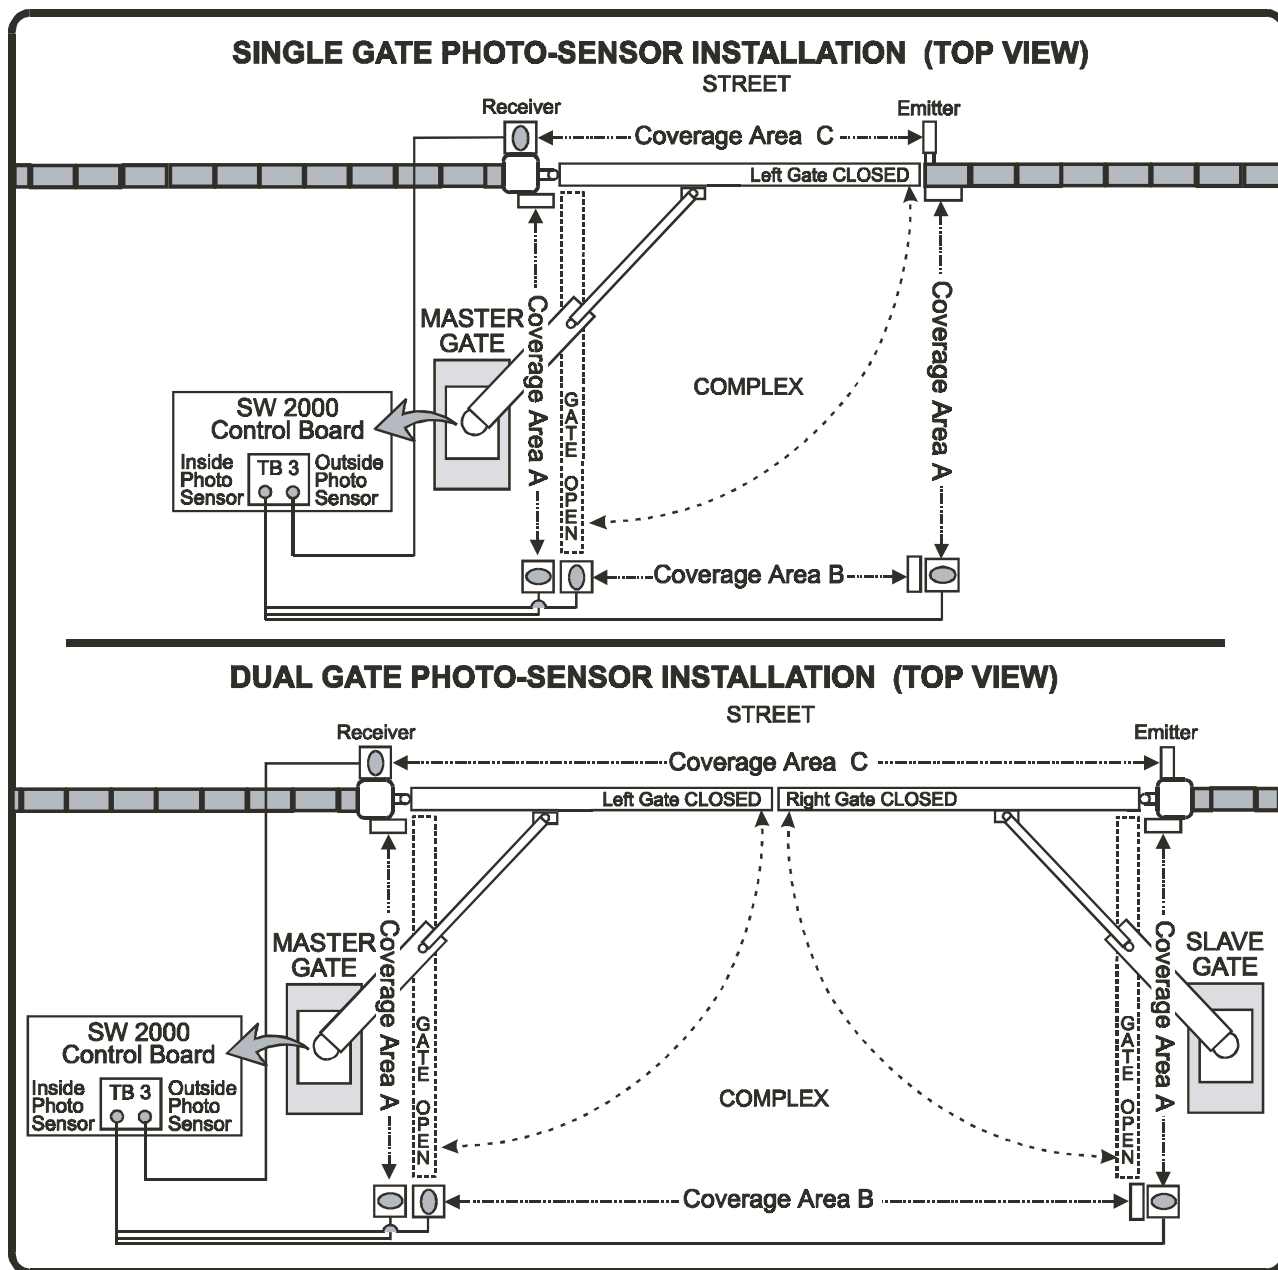

Figure 3. Photo-Sensor Layout
The installation shown in Figure 3 is a suggested layout using emitters and receivers. Any UL-approved photo-sensors are acceptable, **but they must cover the entire area of gate travel to be effective.**
1. Install photo-sensors in three **Coverage Areas** as shown in Figure 3.